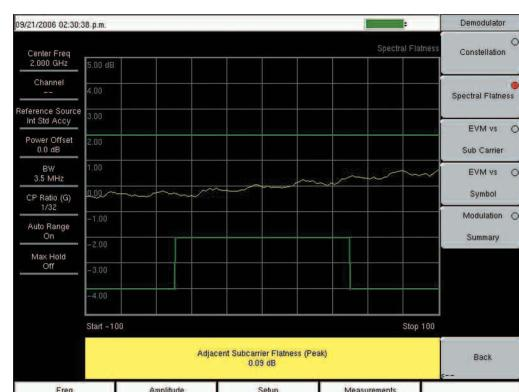

Figure 9. Spectral Flatness view.
3. Press the Spectral Flatness soft key to activate the measurement. The red dot on the soft key indicates it is selected (Figure 9).